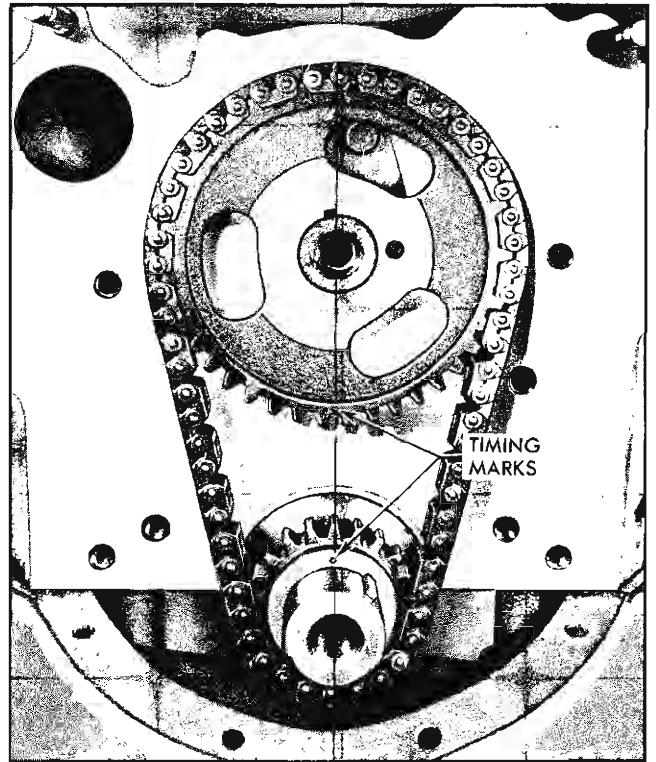

Fig. 6-43 Valve Timing Marks
5. Install new timing chain and/or sprockets making sure marks on timing sprockets are aligned exactly on a straight line passing through the shaft centers (Fig. 6-43). Camshaft should extend through sprocket so that hole in fuel pump eccentric will locate on shaft.